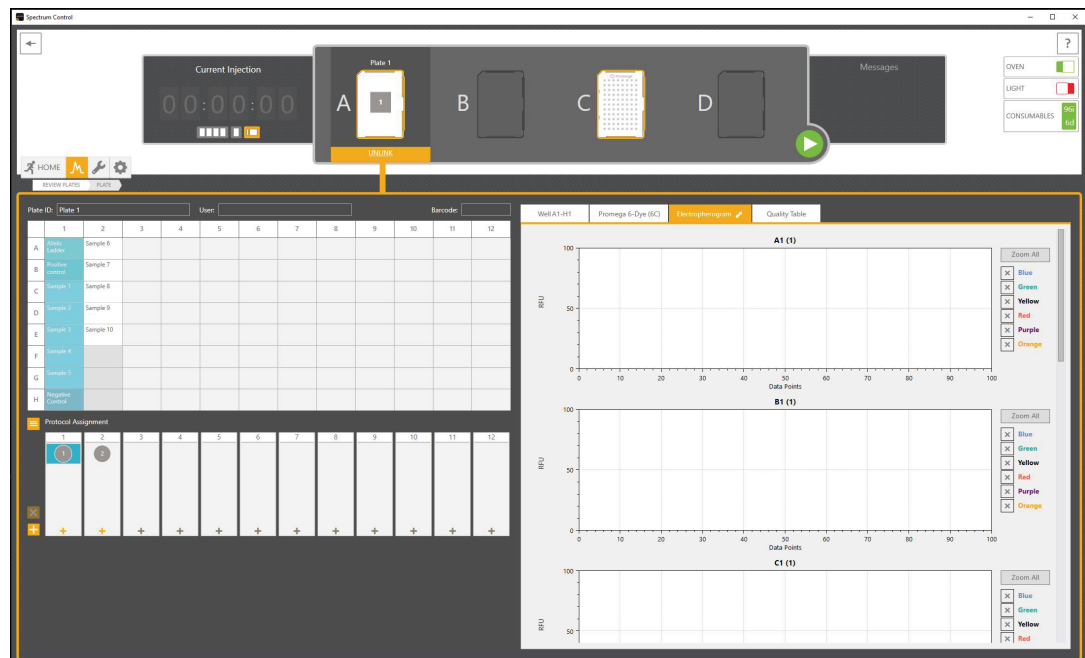

Figure 12. Linked plate in the Spectrum Control Software.
2. Open the draft plate record, then select **Link** in the Plate Position indicator under the position where the plate was placed. Once the plate is successfully linked, the text under the position will change status to “Unlink” and the Plate ID will appear above the position (Figure 12).